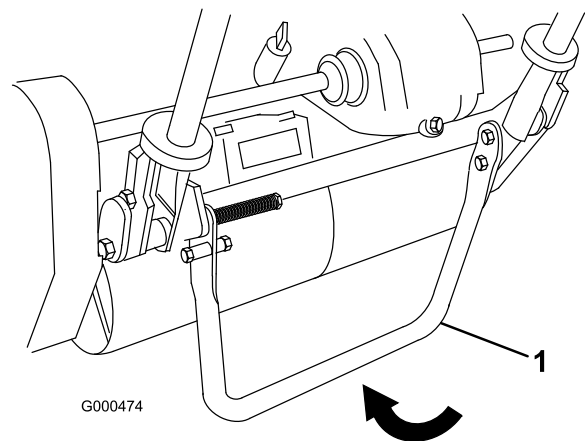

Figure 16
1. Push kick stand down with foot and pull up on handle support until kick stand has rotated forward, over center (Figure 16).